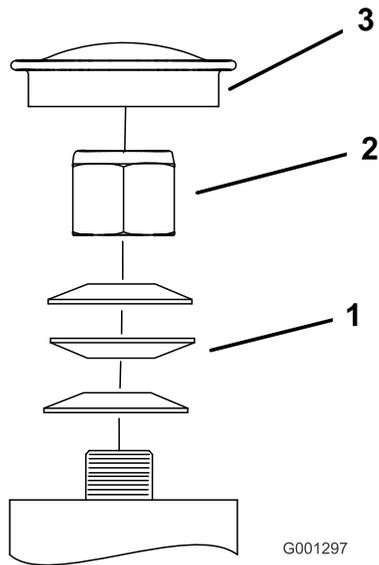

Figure 71
3. Remove the dust cap from caster and tighten the locknut (Figure 71).
4. Tighten the locknut until the spring washers are flat, and then back off a 1/4 turn to properly set the preload on the bearings (Figure 71).
Important: Make sure that the spring washers are installed correctly as shown in Figure 71.
5. Install the dust cap (Figure 71).